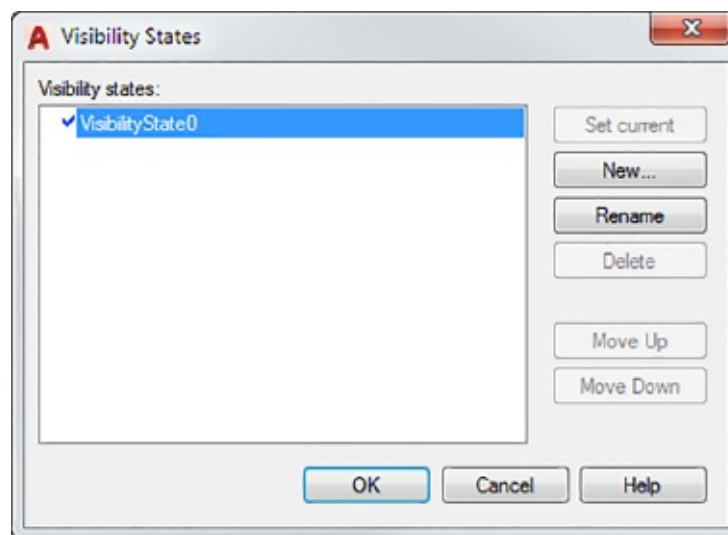

FIGURE 17.24 The Visibility States dialog box
3. Double-click the Visibility parameter that you just added to open the Visibility States dialog box (see Figure 17.24). One visibility state, VisibilityState0, is already provided.